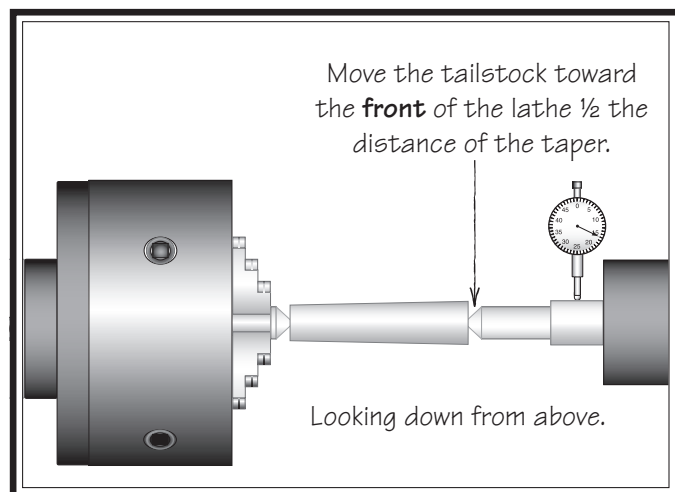

Figure 48. Adjust tailstock toward the operator.
- If the test stock is *thicker* at the tailstock end, move the tailstock toward the *front* of the lathe $\frac{1}{2}$ the distance of the amount of taper (see **Figure 48**).